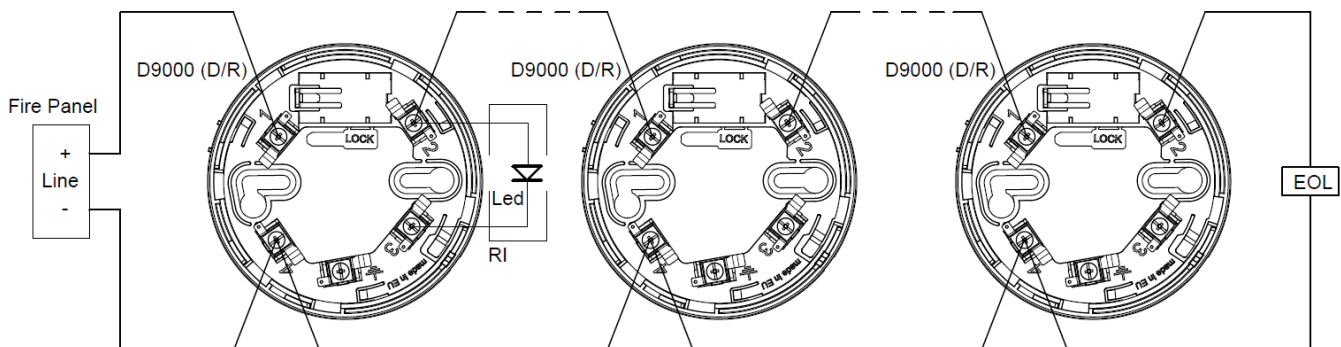

Fig.1
- Connect the electrical cables according to the attached diagram ( Figure 1 ) ;;